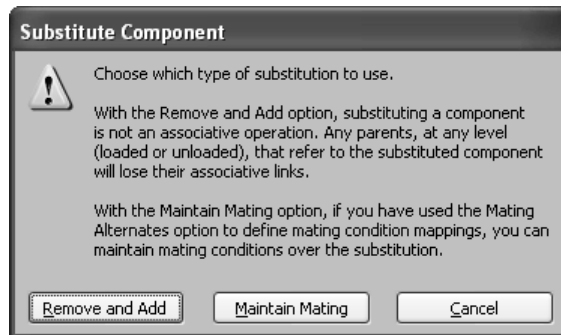
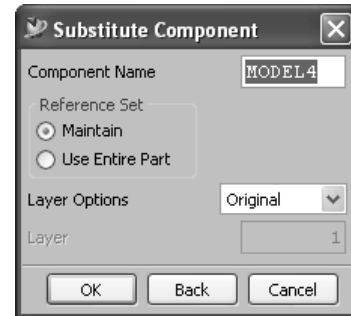

**Figure 8-26** Components and the instance of the pattern feature to be selected
**Figure 8-27** Assembly after creating the derived component pattern
4. The **From Instance Feature** radio button of the **Create Component Array** dialog box is used to pattern a component with reference to the array feature created in the component in the **Modeling** application. For example, if you have created a circular pattern of the holes in a component at the **Modeling** application, you can use it to assemble a bolt on each of the patterned holes. By using the pattern feature created in the **Modeling** application as a reference, you can create the pattern of a bolt in the **Assembly** application. After assembling one of the instances of the Bolt using the assembly constraints shown in Figure 8-26, invoke the **Create Component Array** dialog box. Next, select the **From Instance Feature** radio button and choose the **OK** button to automatically pattern the selected component in the assembly with reference to the created in the **Modeling** application, as shown in Figure 8-27.